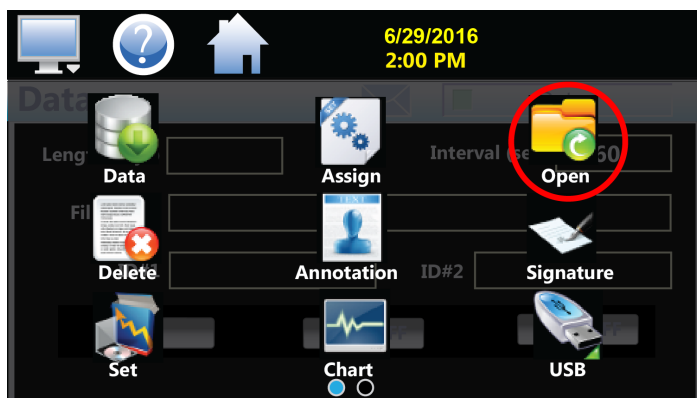

Fig. 72: OPEN Icon
3. Select OPEN Icon (Fig. 72) on the DATA screen. Touching the OPEN Icon brings up a screen showing the available files.